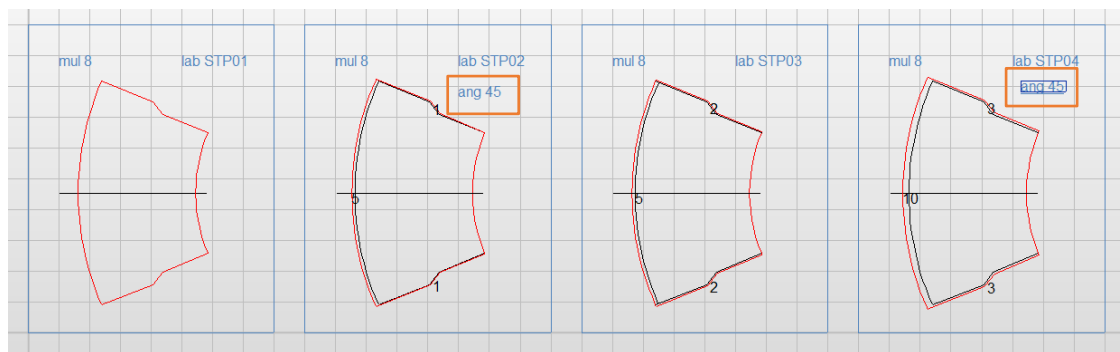

Figure 85
- Now we can add this command to our STP02 command frame (Figure 85).
- Since, we want to rotate all cuts of STP04 as well we can simply copy our -ang 45- command text (**-CTRL-** + **-C-** or copy button ) and paste it to the STP04 command rectangle (**-CTRL-** + **-V-** or paste button ) (Figure 85).